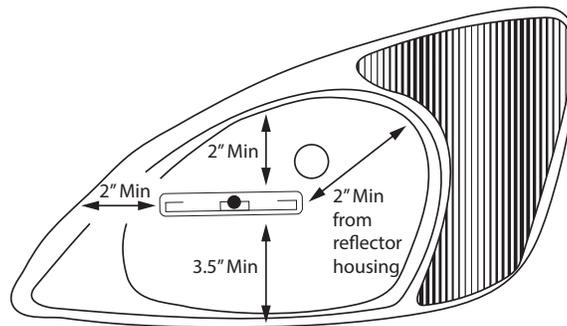

Figure 3 – Placement of tag on headlamp
3. Select a location for the tag on the headlamp with at least 2 in (5.1 cm) clearance from any materials containing metal and approximately 3.5 inches from the bottom reflector (Figure 3).